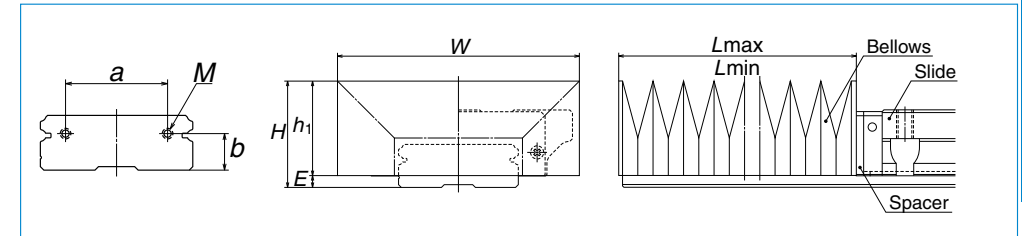
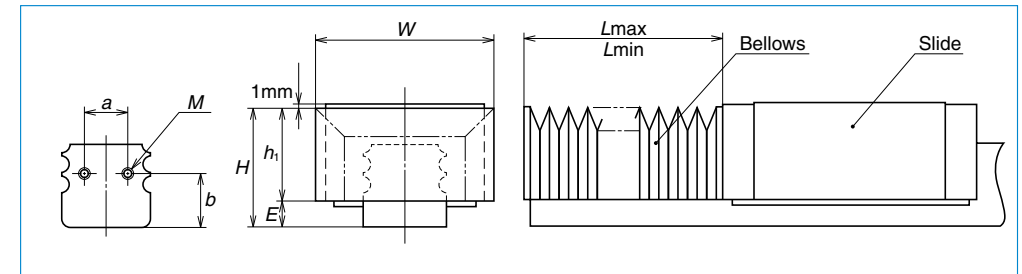

Fig. 7.8
Fig. 7.9
* Fixing to the ball slide (Fig. 7.8 and Fig. 7.9)